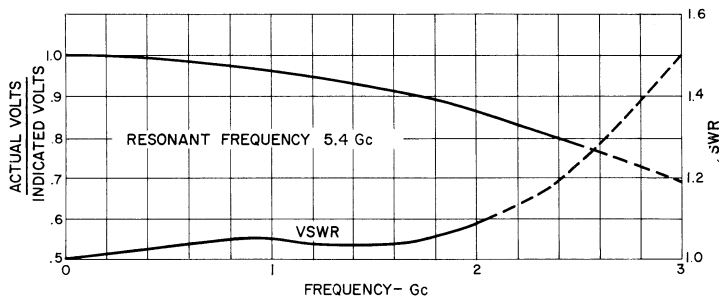

Figure 2. Typical VSWR and frequency correction for Type 874-VR/-VRL output.
2.2 FREQUENCY CORRECTION. Due to resonance in the diode, the indicated voltage for a constant applied r-f voltage increases with frequency. A correction curve giving the ratio of actual to indicated voltage as a function of frequency is shown in Figure 2.
Constant output voltage is very important when the oscillator is being swept (for instance by a Type 1750-A Sweep Drive) for rapid measurement of the frequency response of a network. Remember, however, to correct for the diode resonance characteristic (Figure 2) at high frequencies. If a Type 874-VQ Voltmeter Detector is used as a matched detector after the unknown network, no frequency correction is required because the frequency errors in the two diodes tend to cancel each other. However, irregularities of up to 10 percent may occur owing to the output diode's response to harmonics generated by the input diode.
Frequency Range for Voltage Measurements: 15 Mc to 2.5 Gc, subject to resonance correction above 500 Mc. Voltage indications and correct voltage ratios can be obtained at both lower and higher frequencies. See curve, Figure 2.